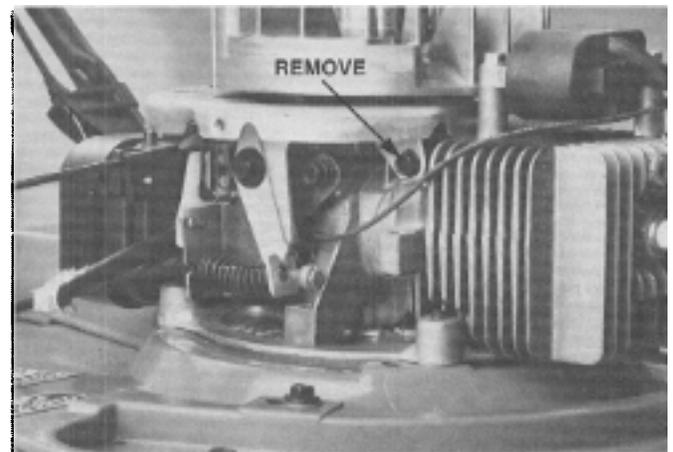

Figure 65
6. Remove the remaining bolts securing the shroud base to the crankshaft halves (**Figure 65**).